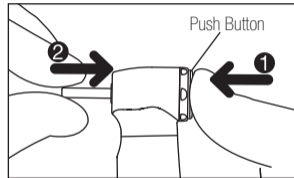

Fig. 2
- 2) Depressing the push button and insert the bur into the chuck. (Fig. 2)